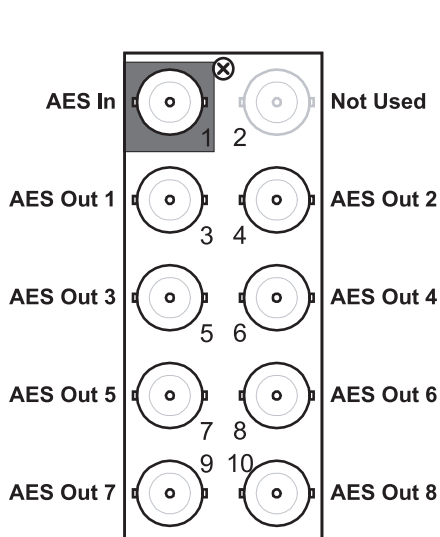

Figure 2.2 Cable Connections for the 8310AR-030 and 8320AR-030 Rear Modules
- **8310AR-030** Rear Module — Each rear module occupies one slot and accommodates one card. This rear module provides one AES input and eight AES outputs. (**Figure 2.2**)
- **8320AR-030** Full Rear Module — Each rear module occupies two slots and accommodates one card. This rear module provides one AES input and eight AES outputs. (**Figure 2.2**)